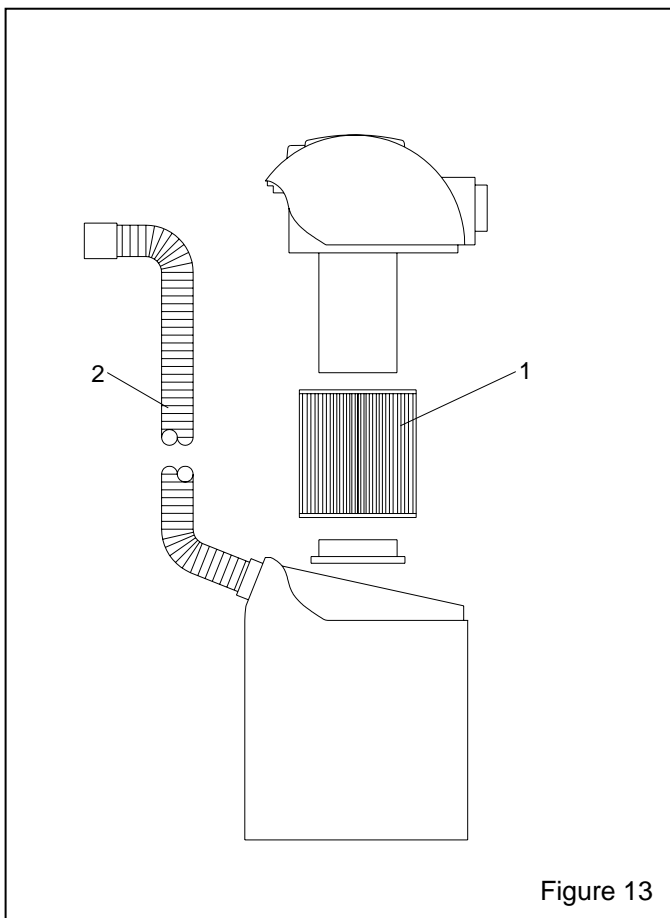

Figure 13
8.1 Vacuum Collector, Figure 13